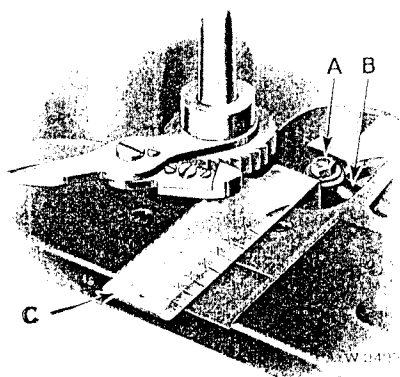

Fig. 13. Showing How to Regulate Length of Buttonhole Also Adjustments on the Machine
it from the machine. The gauge (C, Fig. 13) marked for different lengths of buttonholes is furnished with the machine. Loosen the nut (A, Fig. 13) and place the gauge in the slideway as shown
in Fig. 13. Then move the regulating lever (B, Fig. 13) against the downwardly projecting part of the gauge, having the number on the gauge for the desired length of buttonhole opposite the line in the slideway and tighten the nut (A).